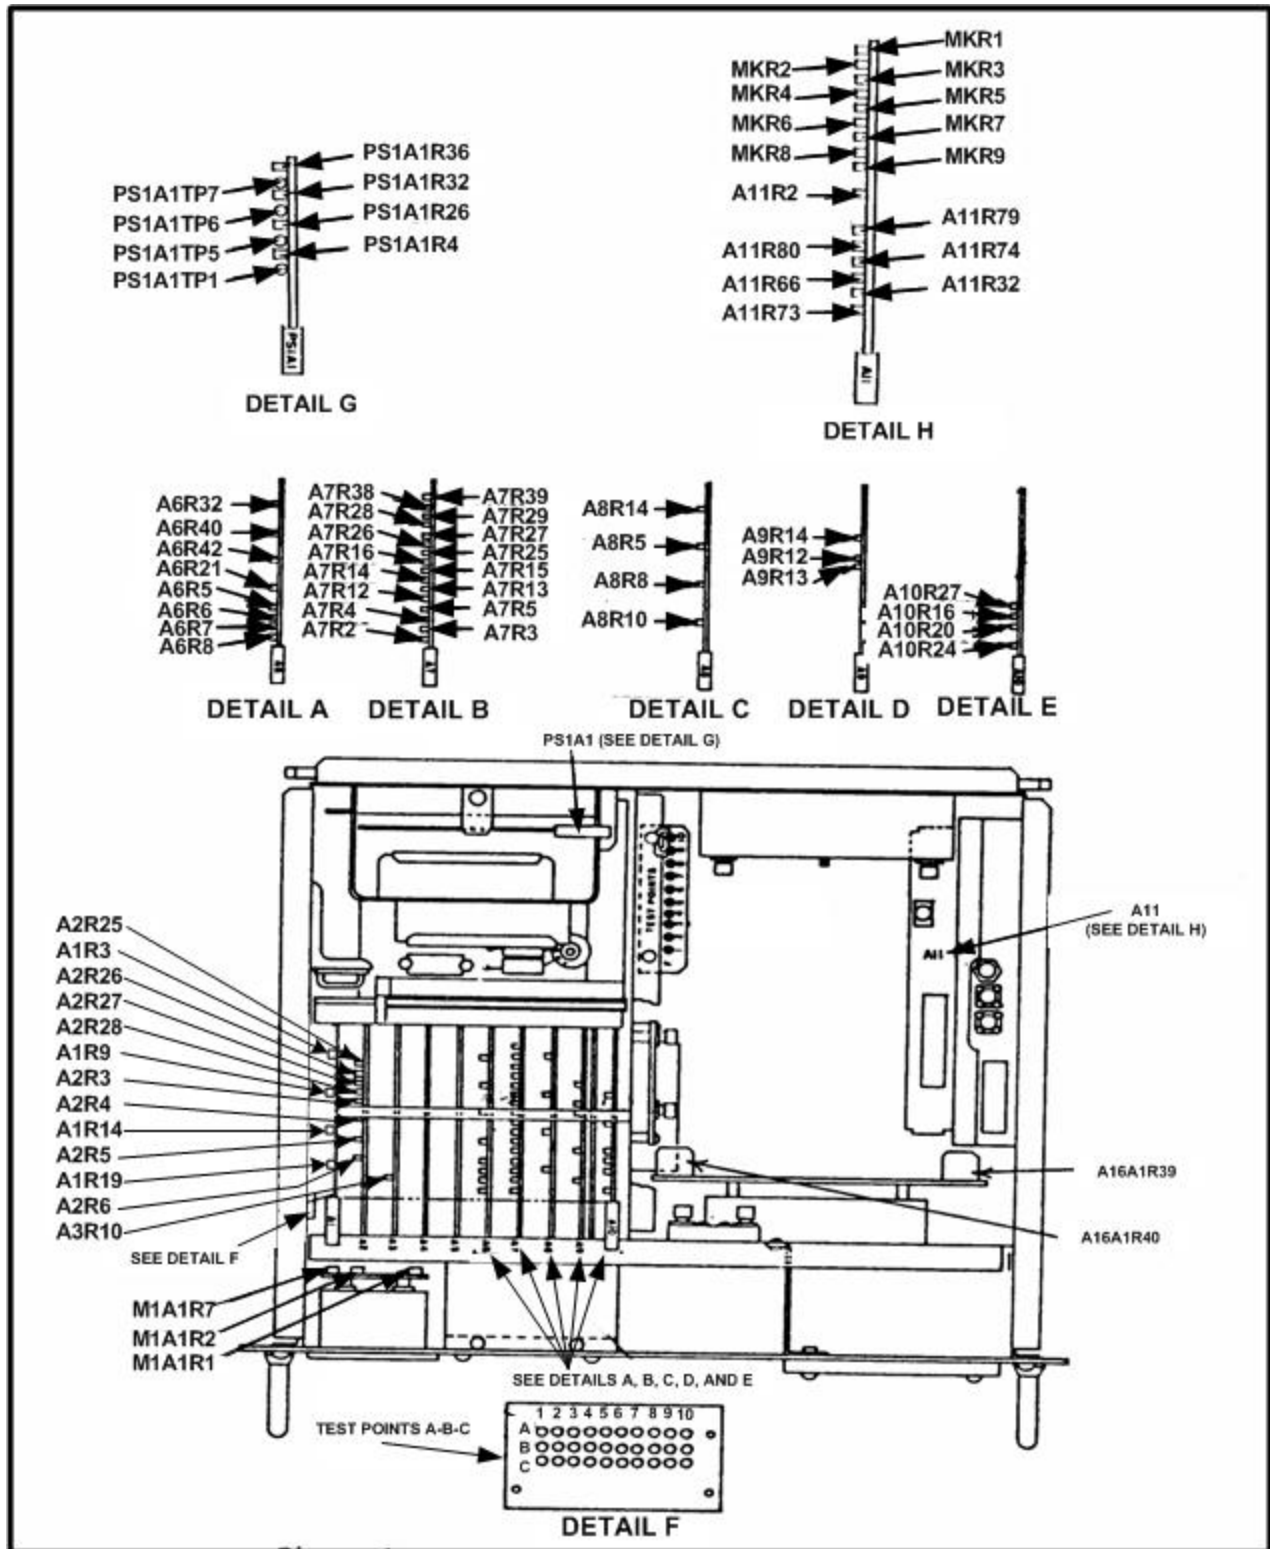

Figure 1. Test point and adjustment locations.
(1) Adjust A1R9 (fig. 1) for a frequency counter indication of 1000 Hz (R).
(2) Connect oscilloscope to A10TP3. Adjust **PRF SELECT MULT** control until frequency counter indicates 5000 Hz.
(3) Adjust A10R27 (fig. 1) for a pulse width of 99.0 μ s as indicated on oscilloscope (R).
(1) Adjust A9R12 (fig. 1) for a pulse amplitude of 2.5 V as indicated on oscilloscope (R).
(2) Adjust A9R13 (fig. 1) for a pulse amplitude of 1.7 V as indicated on oscilloscope (R).
(3) Adjust A9R14 (fig. 1) for a pulse amplitude of 1.0 V as indicated on oscilloscope (R).
(1) Connect **SCOPE TRIG OUT** to oscilloscope **CH1** input, using 93 Ω cable and 93 Ω termination. Connect **AUX TRIG OUT** to oscilloscope **AUX TRIG IN**, using 93 Ω cable.
(2) Set **PRF SELECT RANGE** switch to **X1K** and **PRF SELECT MULT** control to 1.0. Oscilloscope will display a pulse with an amplitude between 4.0 and 6.0 V and a width of 1.0 to 5.0 μ s.
(3) Set **SCOPE TRIG/FREQ MEAS DELAY (μ SEC) RANGE** switch to **X0.4** and **PRF SELECT MULT** control to **10.0**.
(4) Measure risetime and falltime using standard measurement techniques. Risetime will be less than 0.1 μ s and falltime will be less than 0.5 μ s.
- (5) Reverse the cable connections at the **TI SCOPE TRIG OUT** and **AUX TRIG OUT**.
- (6) Adjust oscilloscope controls as required for a pulse display centered on CRT. A pulse amplitude of 17 to 23 V with a pulse width of 0.5 to 1.5 μs will be displayed on oscilloscope.
- (7) Measure risetime and falltime using standard measurement techniques. Risetime will be less than 0.1 μs and falltime will be less than 0.2 μs .
- (8) Set **SCOPE TRIG/FREQ MEAS DELAY (μSEC) RANGE** switch to **OFF**.
- (9) Connect oscilloscope **CH2** input to TPA5 (fig. 1) using X10 probe.
- (10) Measure delay between leading edge of signals on oscilloscope **CH2** and **CH1** inputs. Delay will be between 3.0 and 5.0 μs .
- (11) Disconnect probe from TPA5.
- (12) Position controls as listed in (a) through (c) below:
- (13) Connect oscilloscope **CH2** input to TPA2 (fig. 1) using X1 probe. Leading edge of pulse on **CH 1** will be 0.5 μs or less from trailing edge of pulse on **CH2**.
- (14) Set **AUX TRIG** switch to **OFF**. Pulse on **CH1** will disappear. Set **AUX TRIG** switch to **ON**.
- (15) Set **SIG GEN FUNCTION** switch to **FIXED FREQ** and reverse **MEASUREMENT SCOPE TRIG OUT** and **AUX TRIG OUT** connections on TI.
- (16) Adjust **SCOPE TRIG/FREQ MEAS DELAY (USEC) MULT** control to 1.0 and **SCOPE TRIG/FREQ MEAS DELAY (USEC) RANGE** switch to **X0.4**.
- (17) Measure delay between leading edge of signals on oscilloscope **CH1** and **CH2** inputs. Delay will be between 0.3 and 0.5 μs .
- (18) Position controls as listed in table 5. Delay as measured on oscilloscope will be within limits specified, if not, perform adjustments as listed in table 5.